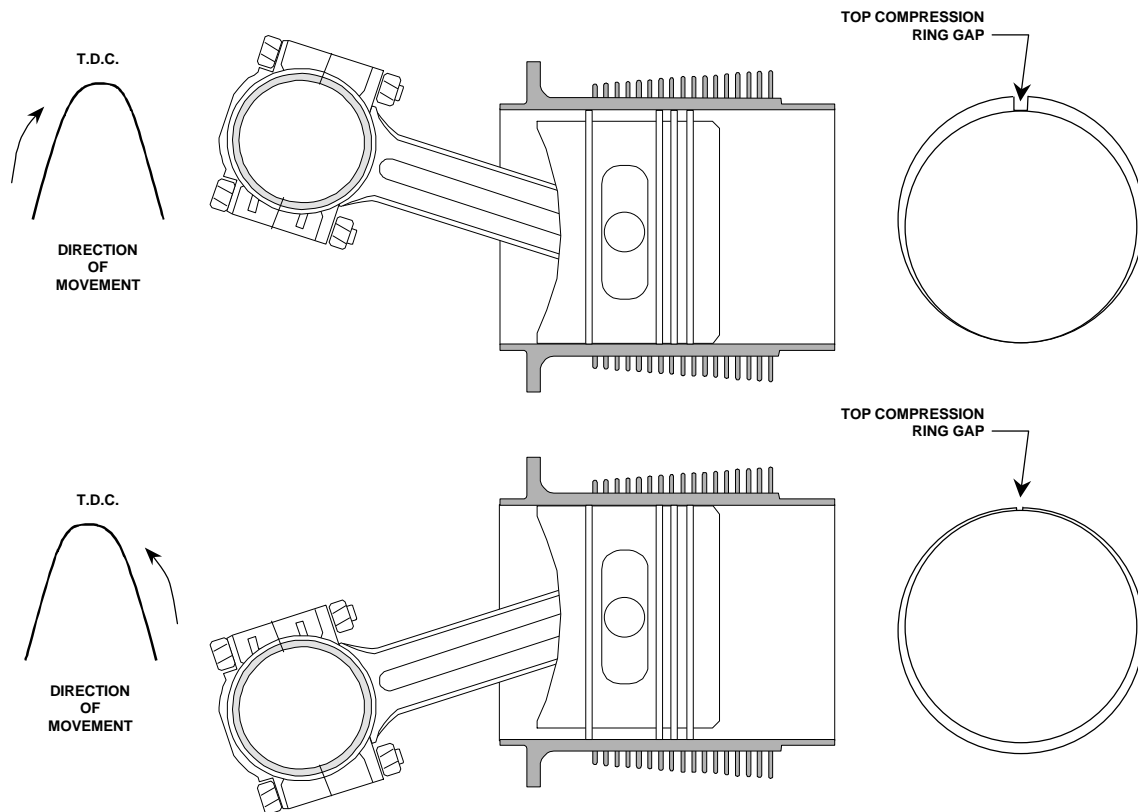

FIGURE 4.
- (l) If the leakage is below the previously determined low cylinder gage reading, loss past the dynamic seal may be due to piston ring end gap alignment or by the piston and piston rings angular direction in the cylinder bore see Figure 4. First assure that the piston and piston rings are centered. This may be accomplished by reducing regulator pressure to 20 P.S.I. and working piston through TDC several times, bringing the piston to TDC in the normal direction of engine rotation. Adjust regulated pressure to 80 P.S.I. and determine amount of loss. If the gage reading is higher than the previously determined master orifice calibrated reading, proceed to next cylinder to be tested.
NOTE...Piston ring rotation within the ring land is a normal design characteristic. As illustrated in Figure 4, the compression ring location may have a direct bearing on the dynamic seal pressure check. Therefore, we suggest you complete the test in the opposite direction if readings are below prescribed limits.